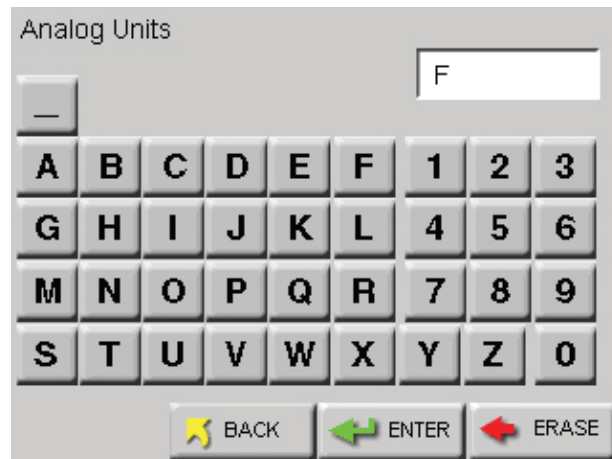

Figure 4-5 Analog Units Edit Screen
13. Enter the UNIT of measure (i.e., F for Fahrenheit, PCT for percent humidity, etc.) for the analog channel and press ENTER. See Figure 4-5.